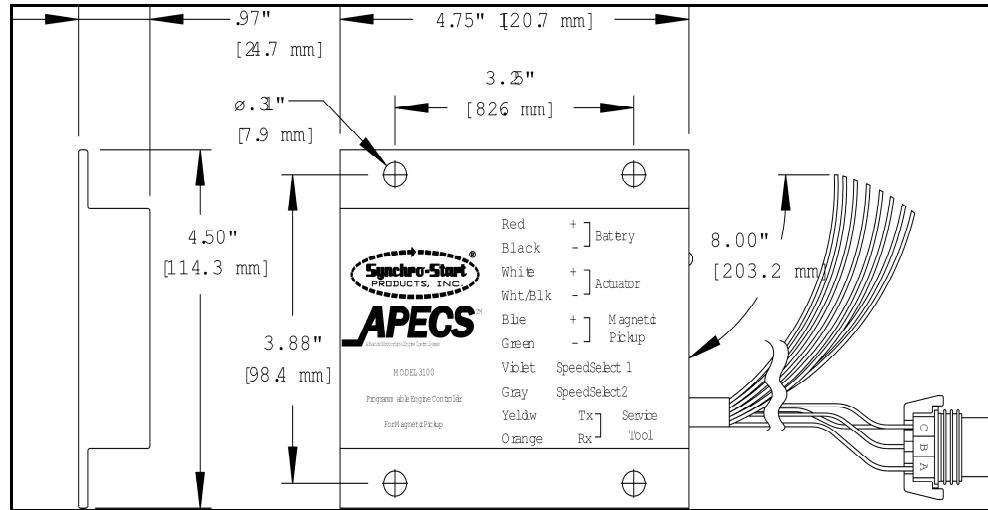

Figure 7. APECS 3000 Dimensions
1. To install and wire the controller refer to **Figures 7 & 8, and Tables I & II.**
4. Mount the unit in a location where the effects of vibration and temperature are within the specified range. Operating temperature: -40 °F to +185 °F (40 °C to +85 °C); vibration: 6 G's from 40 to 2000 Hz. (See Figure 7 for controller dimensions.)